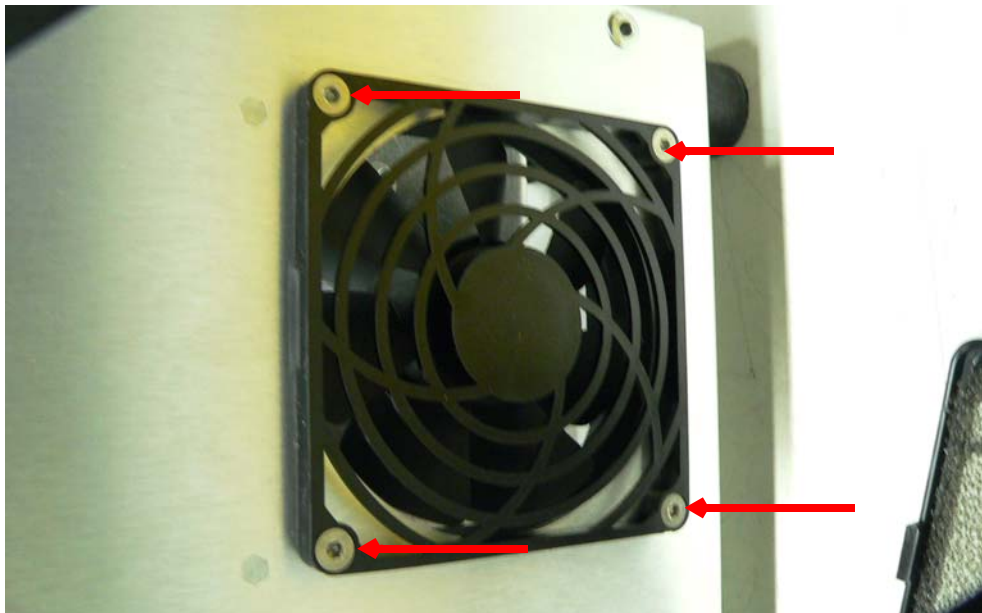
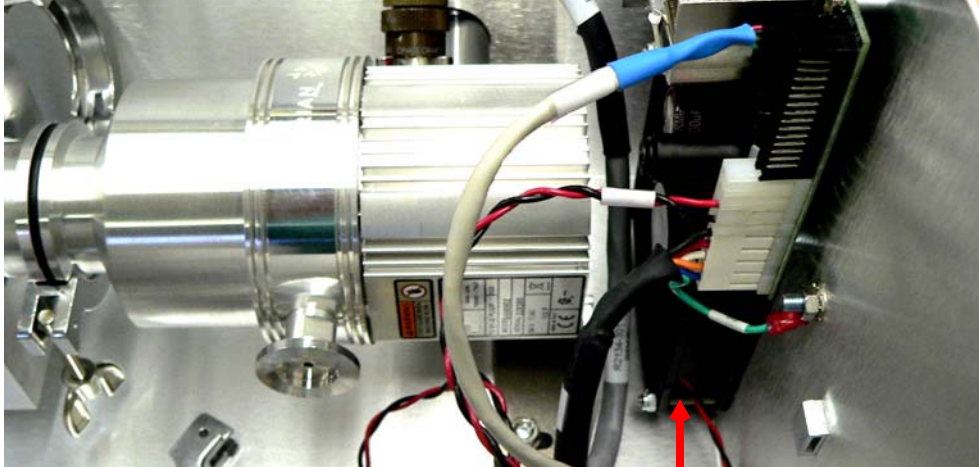

Figure B-12 Fan Exterior Screws
Figure B-13 Fan Washer/Nut/Spacer
6. Remove the four (4) M2.5 screws from the outside of the unit (Figure B-12), securing each associated nut inside the unit. Ensure once loosened that the washer/nut/spacer for each do not roll into the unit (Figure B-13).